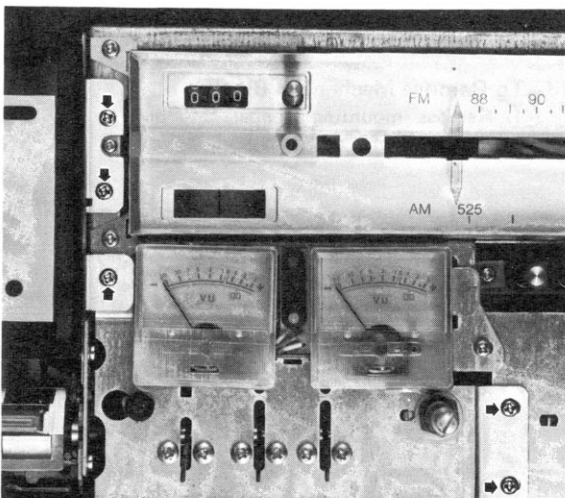

Fig. 28
5) Remove 13 screws. (Refer to Fig. 28, 29 and 30)